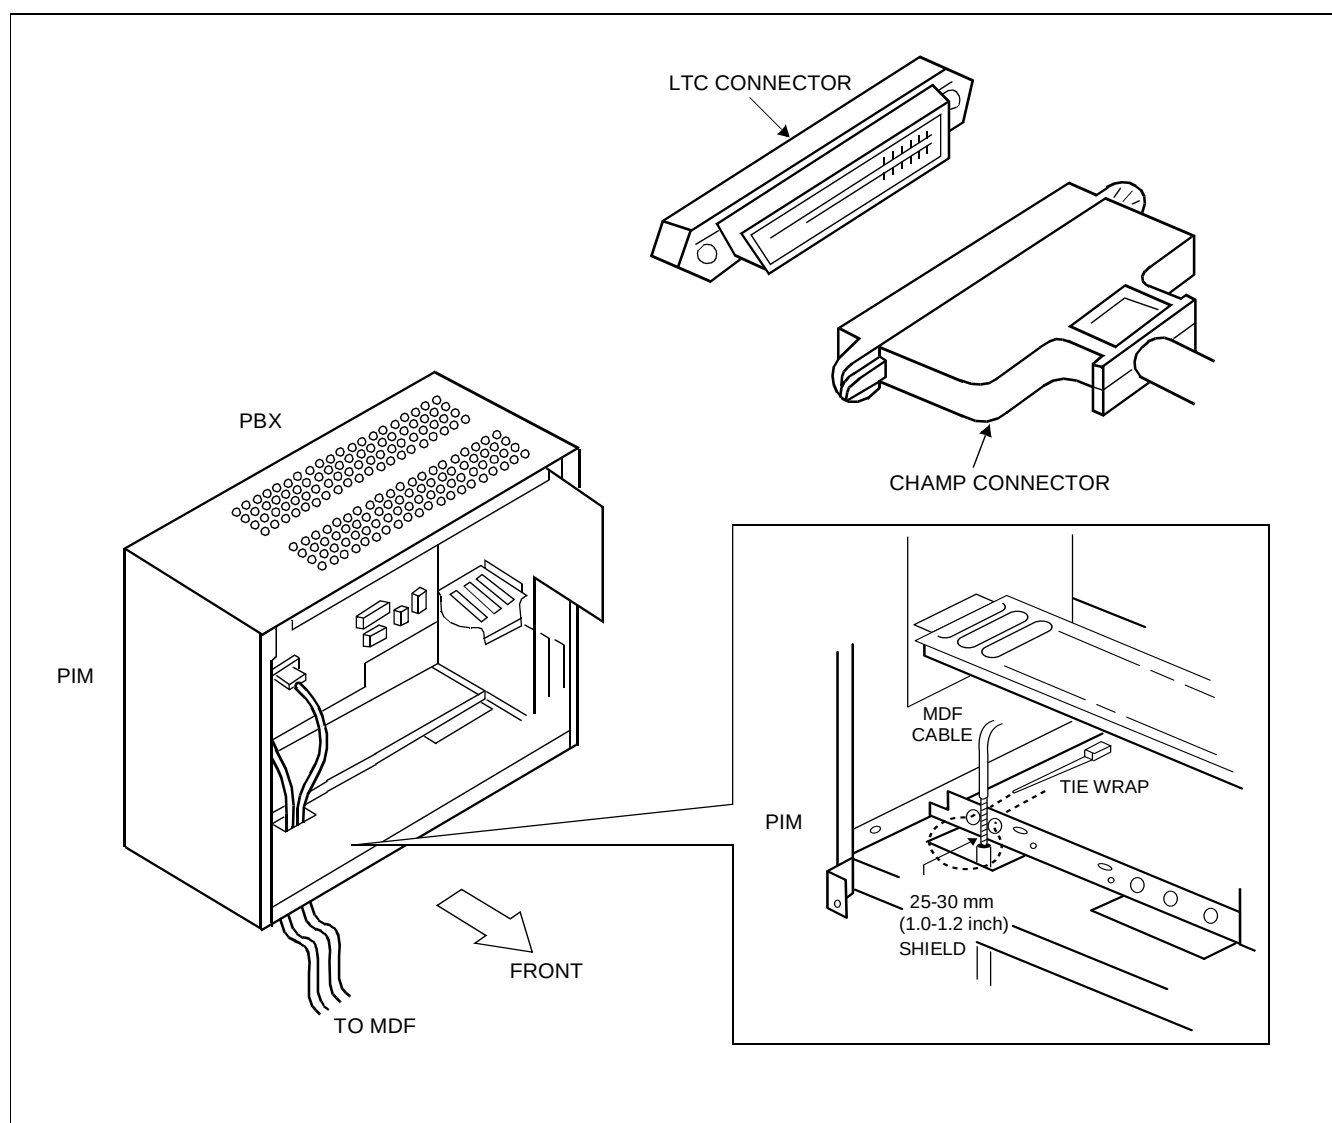

Figure 006-2 Cable Running to External MDF
- (1) Bring the MDF cable up to the Main Equipment through the cable hole(s) of the bottom cover.
- (2) Connect the champ connector of each MDF cable to an LTC connector located on a PIM using the screws provided, as shown in Figure 006-2.
- (3) Pare the sheath of each MDF cable and secure the shield to the bottom of the PIM using tie wraps, as shown in Figure 006-2.